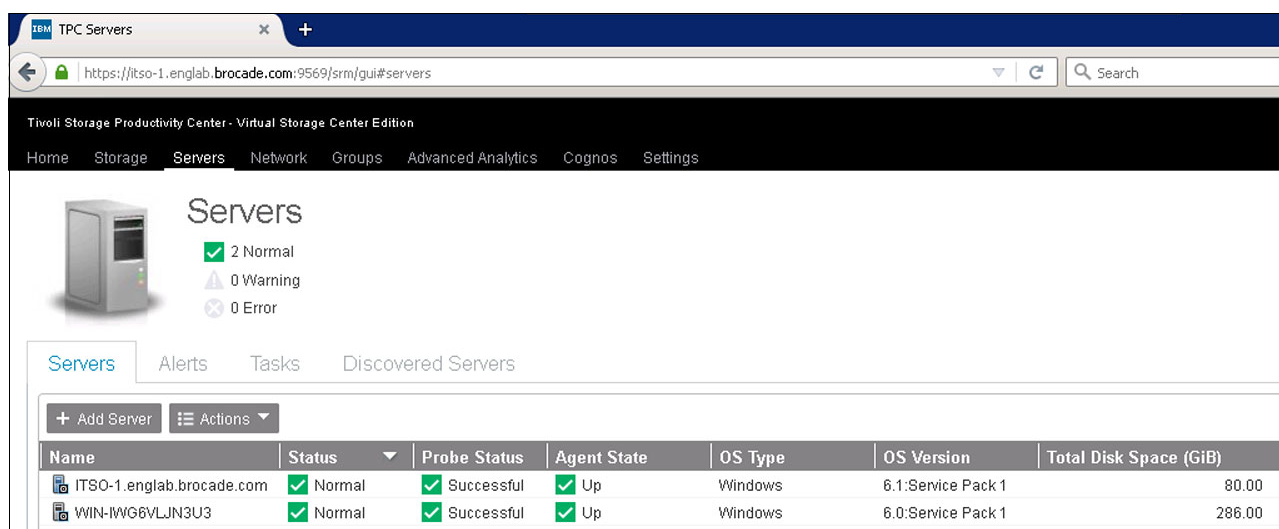

Figure 6-9 Server view main window
1. From the Tivoli Storage Productivity Center GUI left navigation pane, select **Server** → **Resources** → **Servers** as shown in Figure 6-9.